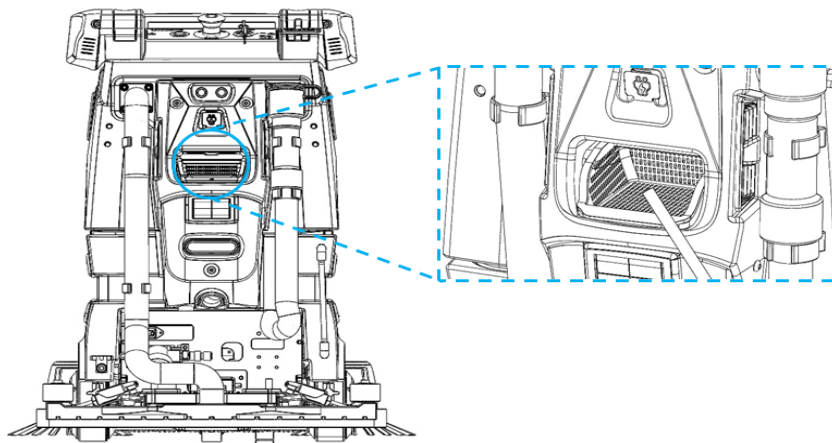

FIGURE 2-15
3. Insert the other end of the clean water hose into the top up tray filter (**12**). Push a significant length of the tube into the inlet to prevent it from dropping out during filling (Fig 2-15).